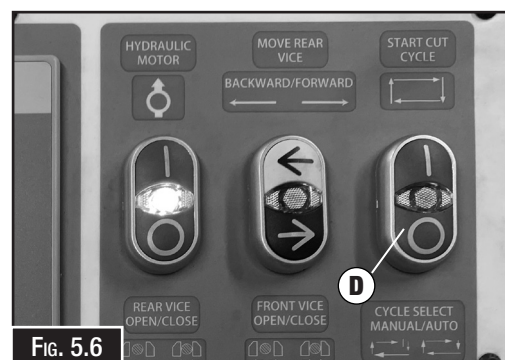

FIG. 5.6
14. Start cut cycle by selecting the ON button (D in Fig. 5.6). The bow will rapid traverse until the fast approach sensor is touching the workpiece with the blade set at approx. 10mm off the workpiece.